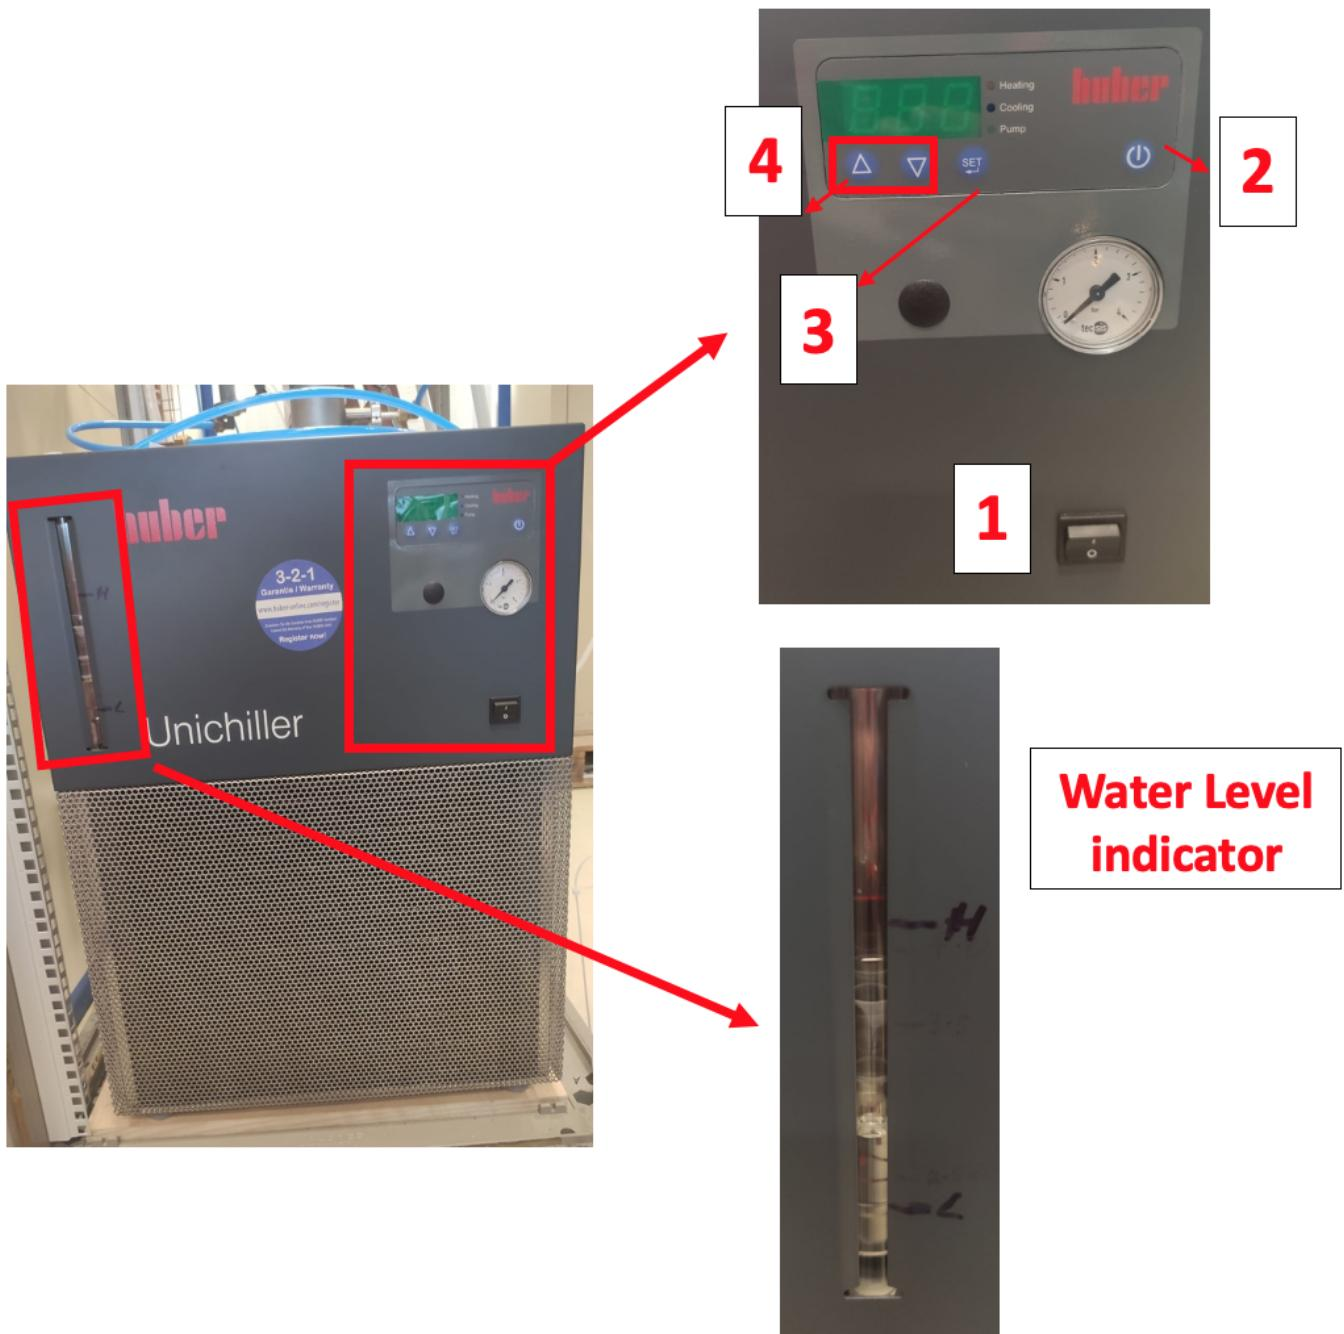

Figure 3
This unit is responsible of cooling the water, shown in Figure 3.Left.
- To switch on/off the chiller, there is 1/0 button (shown by number 1 in top right of figure 3), then you need to press the power button (shown by number 2 in top right figure 3) for 1 sec to switch on the chiller.
- Check the set point of the temperature by pressing on SET button shown by number 3 in top right figure 3 (You need to keep pressing on the set button to see the temperature in the display)
- You can adjust the set point of the water with 2 arrows up/down (shown by numbered 4 in top right figure 3), when you adjusting the set point by up/down arrows you need to keep pressing on the SET button. Normally we set the temperature at 17oC
- You can check the water level in the water tank inside the chiller from the glass window shown in Figure 3 right bottom.
The compressed air line is connected to the system from the black valve (Air Valve) shown in Figure 3.